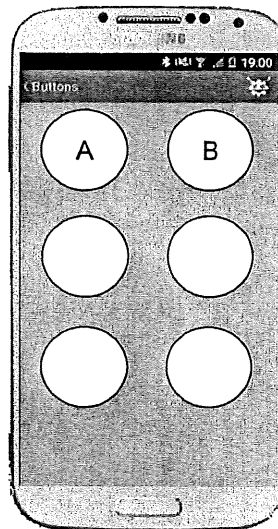

Figure 2
- b) Produce a program to turn ON/OFF LED according to the schematic drawn in question 2 (a) and smartphone application in Figure 2 when: